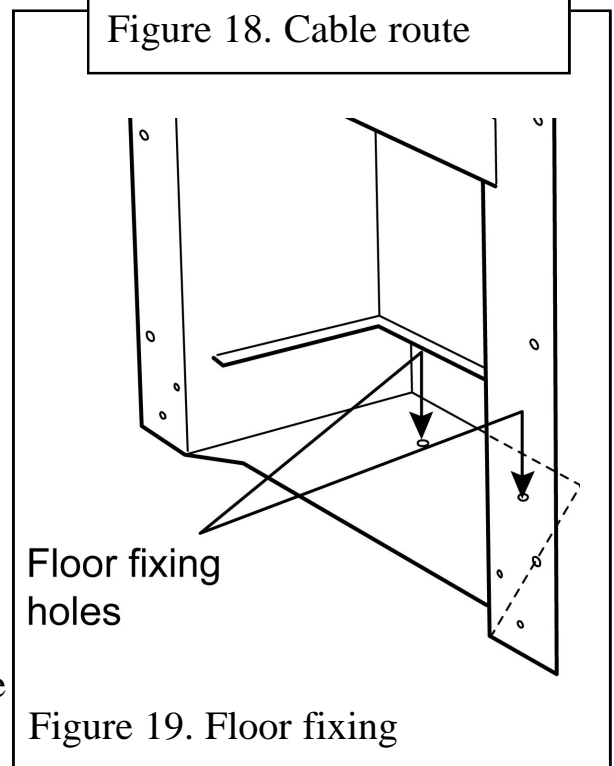

Figure 19. Floor fixing
8. Drill a hole into the fireplace floor through each of the two holes in the base of the hotbox using a no.12 masonry drill (See figure 19).